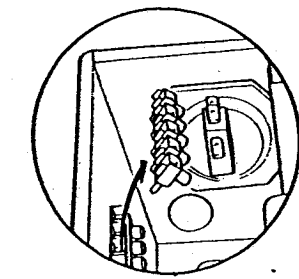
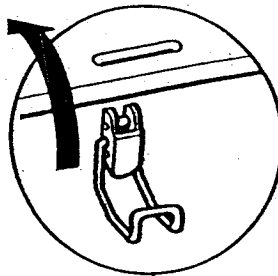
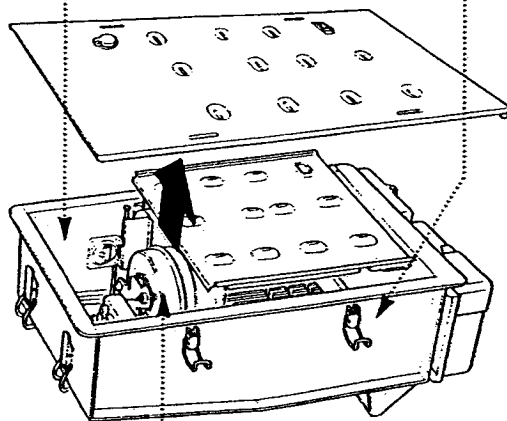

Fig. 17
Fig. 16a
Fig. 16
1. Release the four latches holding the combustion box door (Fig 16a). Remove the combustion box door by pulling forward from the bottom and unhooking its top edge (Fig. 16).
2. Release the 5-pin electrical plug connecting the pressure switch and fan (Fig. 17). Withdraw the fan assembly by pulling forwards from the top edge (Fig. 16).